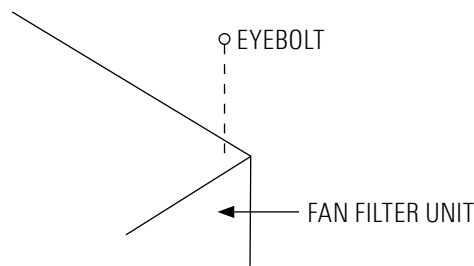

FIGURE 2 : HANGER SUPPORTS
**Step 3.** If using rigidly supported grid (usually 2" (50 mm) or wider), raise unit through ceiling and lower onto the gasketed grid. If using a flexible grid (typically supported with wires), the unit must be secured to an engineered support system with eyebolts, s-hooks, and chain. Screw the four eyebolts into the nutserts on the lid assembly before lifting into an overhead position. (See Figure 2.)